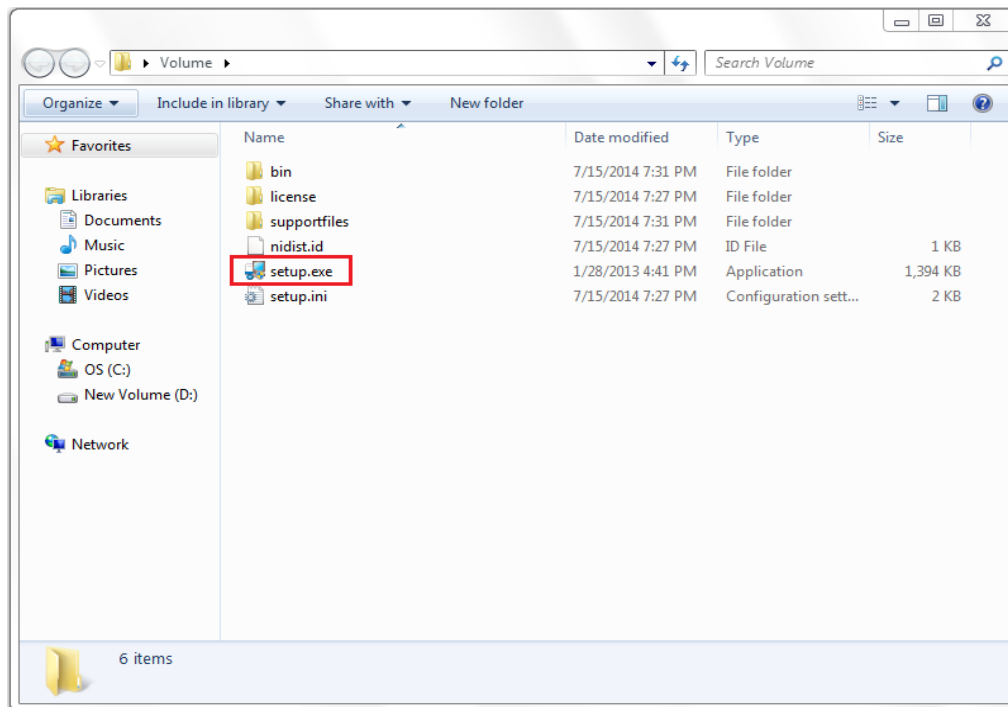

Figure 1-1 Setup.exe from Volume folder
1. Double click on the **Setup.exe** from the Volume folder as shown in Fig.1-1.